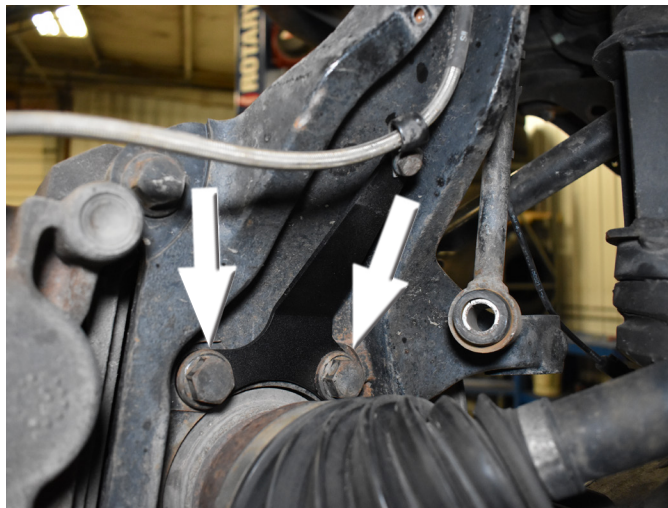

FIGURE 5
- Locate and remove the two upper hub assembly bolts (Fig 5). The bolts are accessed from the back side of the steering knuckle. Save hardware.